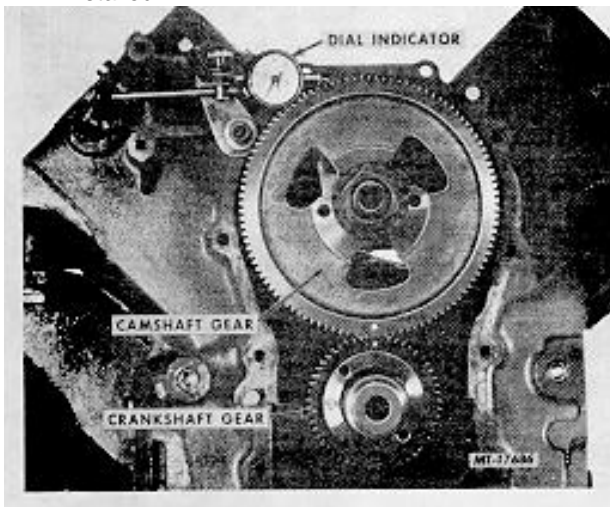

Fig. 50 Checking Crankshaft and Camshaft Backlash
51. Rotate the crankshaft and camshaft to insure the gears do not bind or interfere. With the use of a dial indicator (Fig. 50), check the timing gear backlash. See SPECIFICATIONS. If backlash exceeds the limit, new timing gears must be installed.